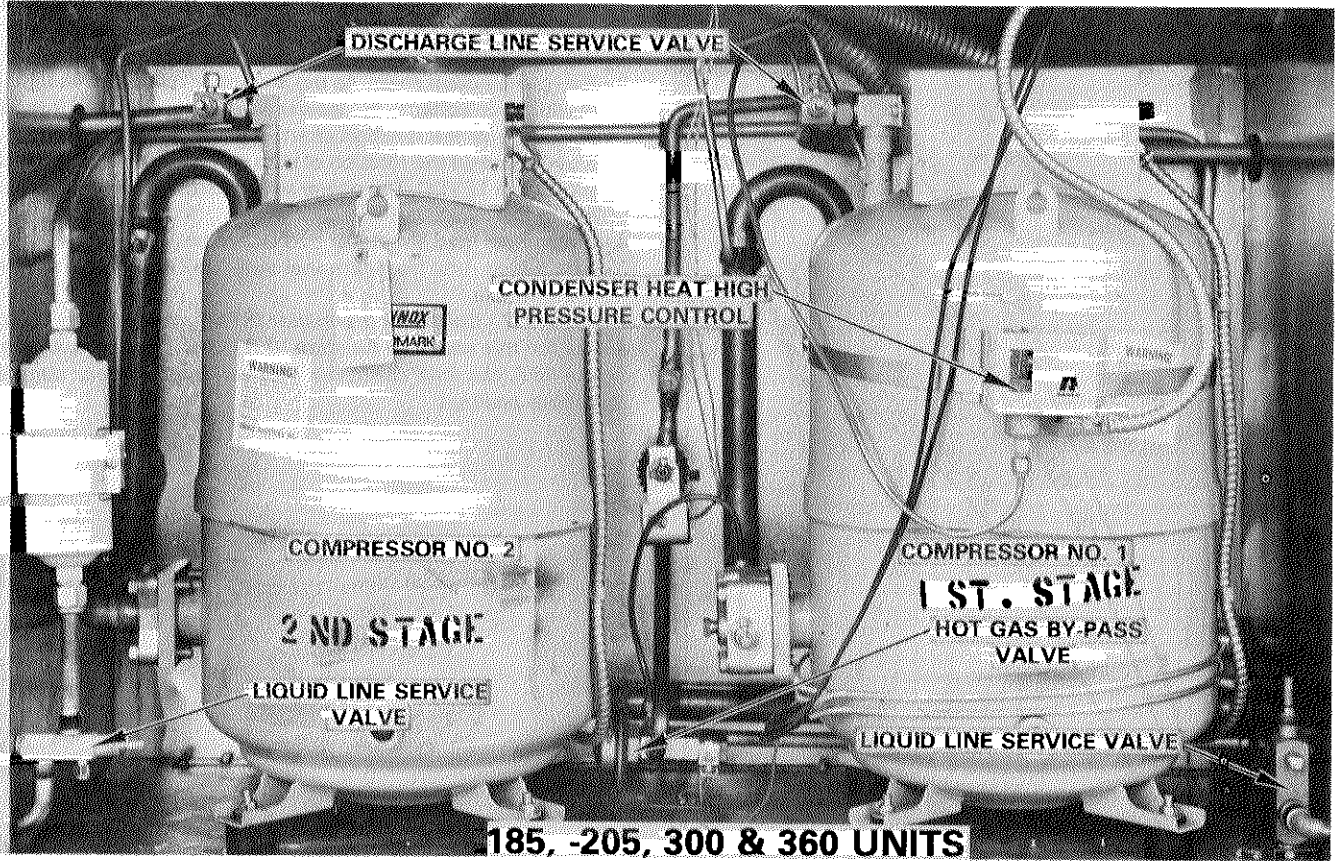
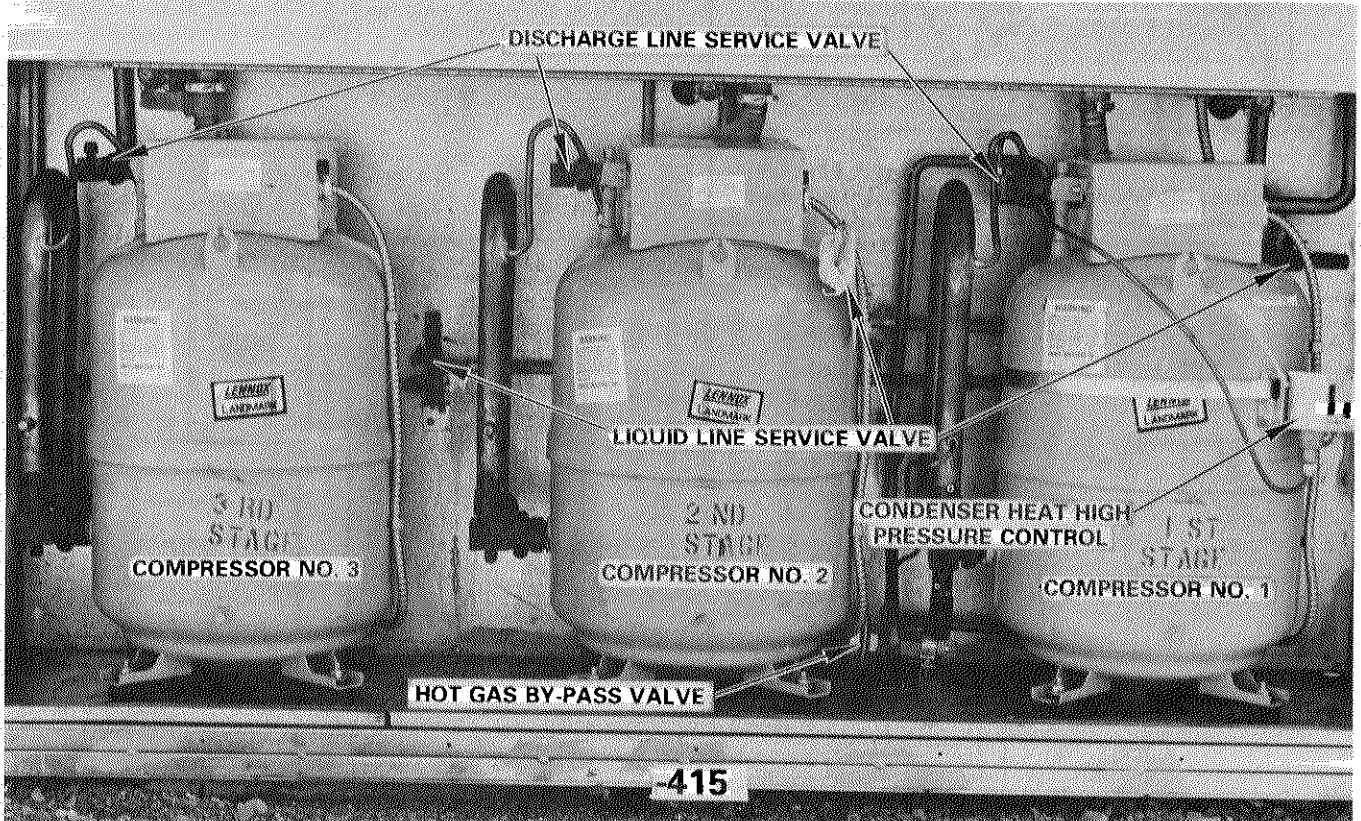

FIGURE 66
FIGURE 67
Refer to Figure 66 (185, 205, 300 & 360 units), Figure 67 (415 units)
- 1 - Refer to Figures 66, 67 and 68 for service valve identification. Attach gauge manifold.